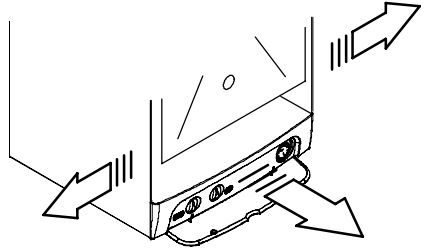

Fig. 6.14
- 4 Remove the side panels or move the lower part of the side panels as indicated in Fig. 6.14 and pull the control panel.